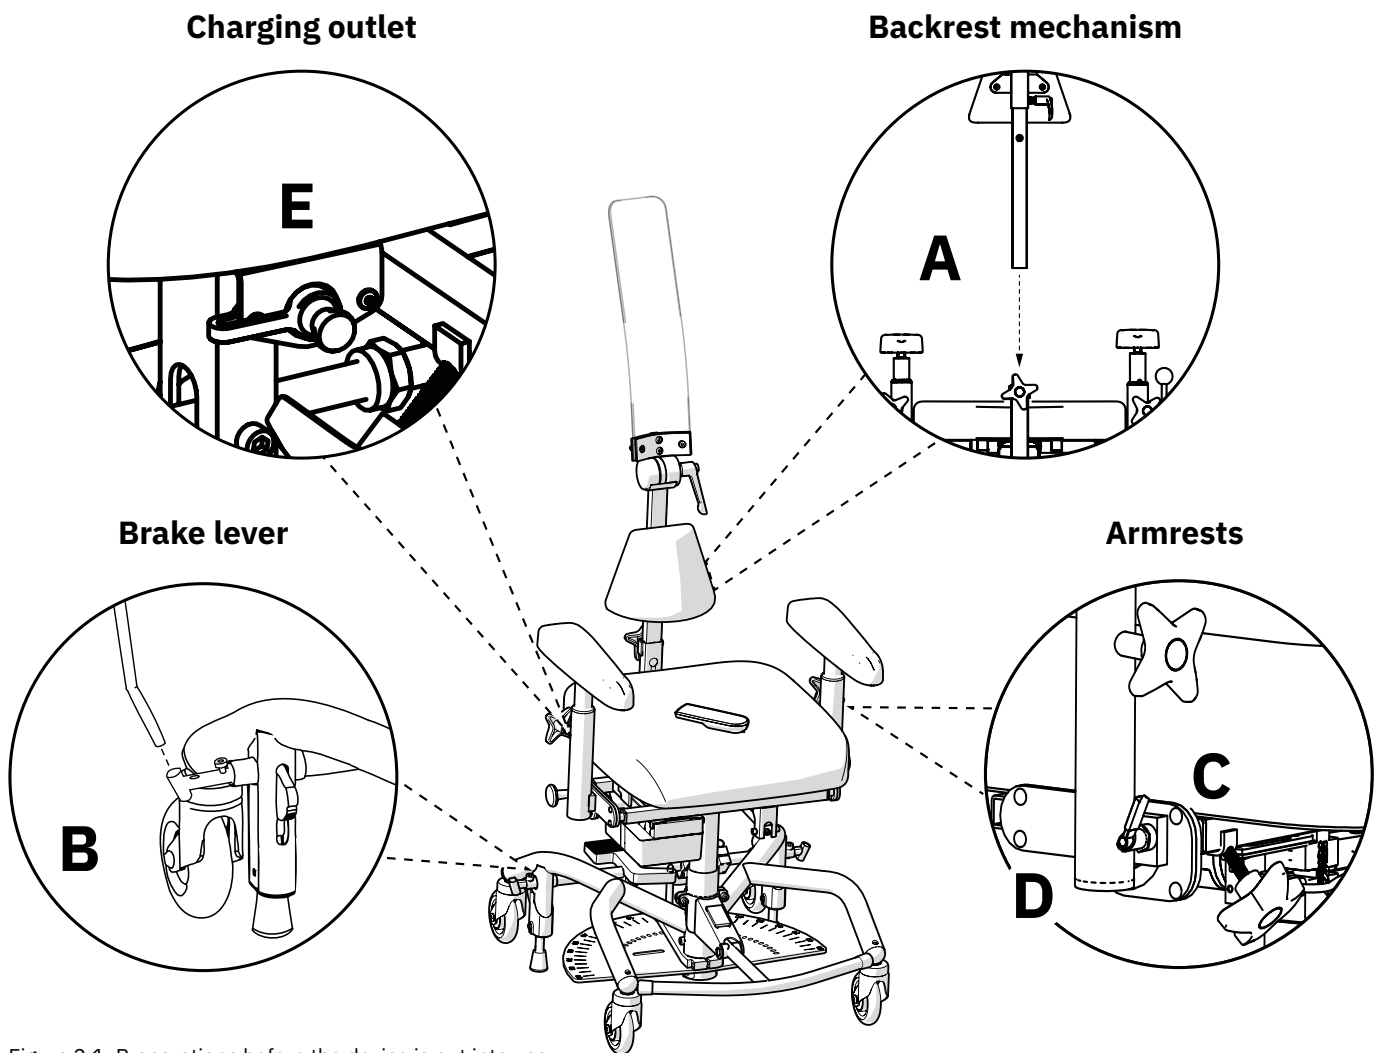

Figure 2.1. Preparations before the device is put into use.
Place the backrest post in the backrest mechanism (A) and set the desired height level, see Figure 2.1. Tighten all levers (A). The picture shows one of the two standard backrests that come with the device. For adjusting backrests and backrest mechanisms, see 5.6. Backrest mechanism and backrest.
We recommend that the brake lever not be mounted if you intend to use the foot brake. If you intend to use the handbrake function, mount the brake lever as follows: Insert the brake lever into the brake lever bracket (B) (see Figure 2.1). The brake lever can be placed on the right or left side.
Loosen the knobs for the armrests (C) and adjust to the desired height and width, see Figure 2.1. Tighten all knobs (C). Check that the handle (D) clicks into the locked position when the armrest is folded down. If the handle does not click into place, press the handle down until it does.
Before initial use, activate and/or charge the battery. This is done by connecting the battery charger to the device's charging outlet and to a wall outlet (E), see Figure 2.1. The charging outlet can be placed in different places on the device. The device is usually delivered with the charging outlet mounted at the rear edge under the seat.